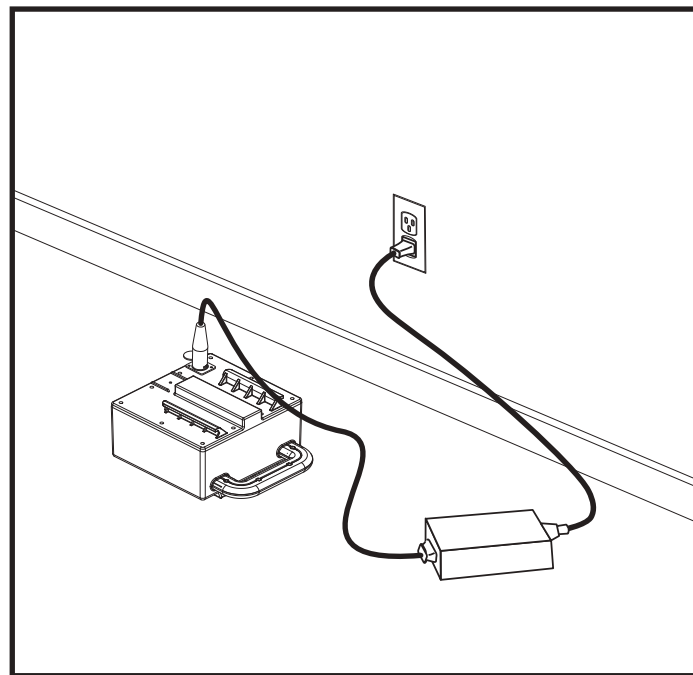

Figure 13. Battery Charging with the Battery Box
3. Plug the off-board charger into the battery box charger port. **See figure 13.**